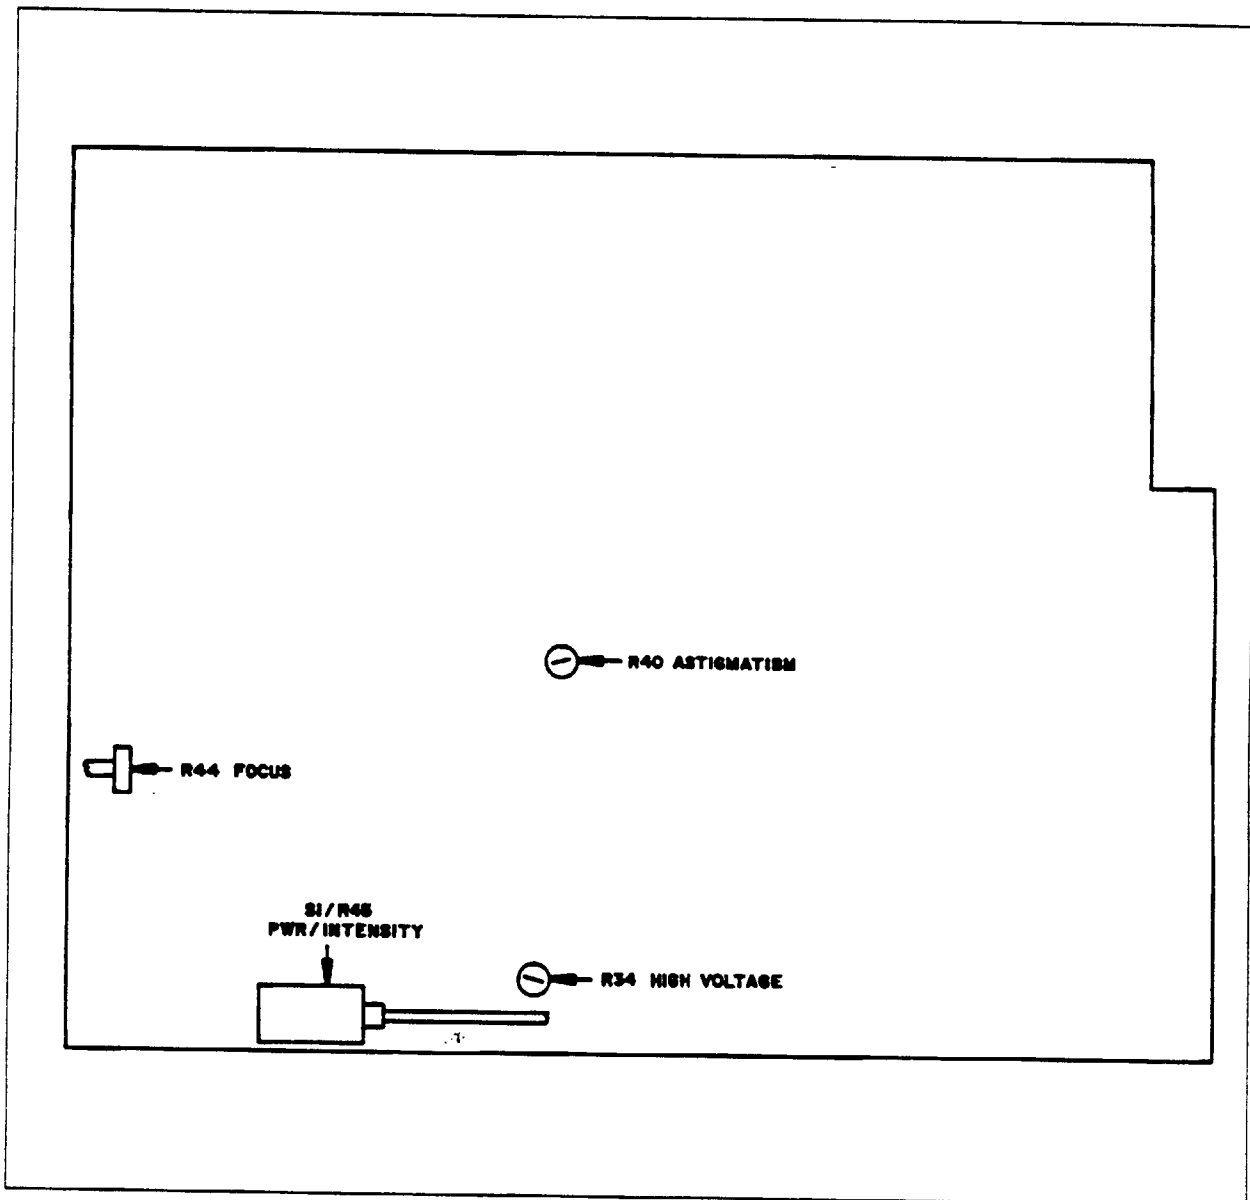

Figure 4-8. Main PCB Adjustment Locations.
The High Voltage is factory adjusted to -1320 VDC, and users are advised not to readjust trimpot 1.A1.R34 unless it is absolutely necessary. This adjustment requires a digital multimeter (DMM) and a High Voltage probe. 1.A1.R34 (High Voltage) is on the Main PCB. Refer to Figure 4-8 for adjustment location and Figure 6-2 for schematic.
1.A1. R40 (Astigmatism) is on the Main PCB. Refer to Figure 4-8 for adjustment location and Figure 6-2 for schematic.